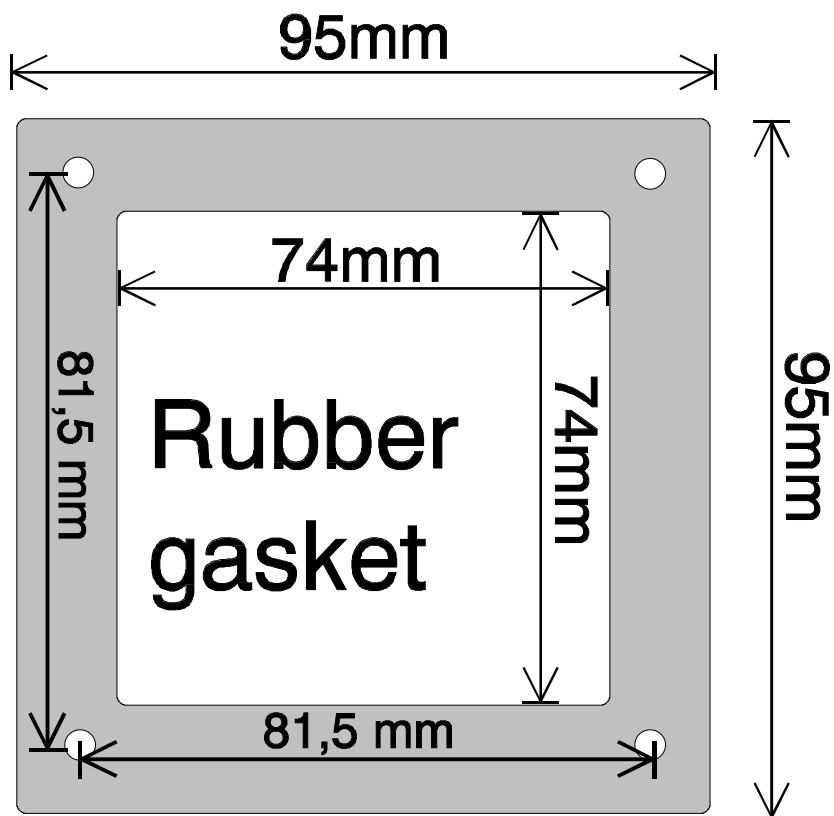

**FIG 11.**
**In some cases (shallow installation) we recommend to protect the propeller by mounting a grid, etc. in the tunnel opening. (Fig 11)**